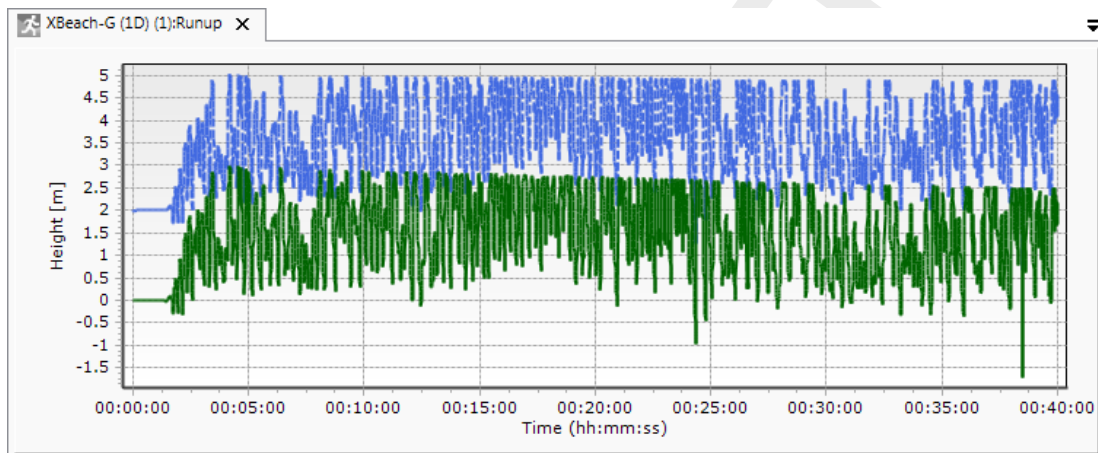

Figure 6.8: Example of the Runup output document view with time format
- 1 **Time format (hh:mm:ss)** - This format represents the time relative to the start of the simulation following the hh:mm:ss format, in which hh represents the hours, mm minutes and ss seconds. Figure 6.8 shows an example of the "Runup" document view when this format is selected.